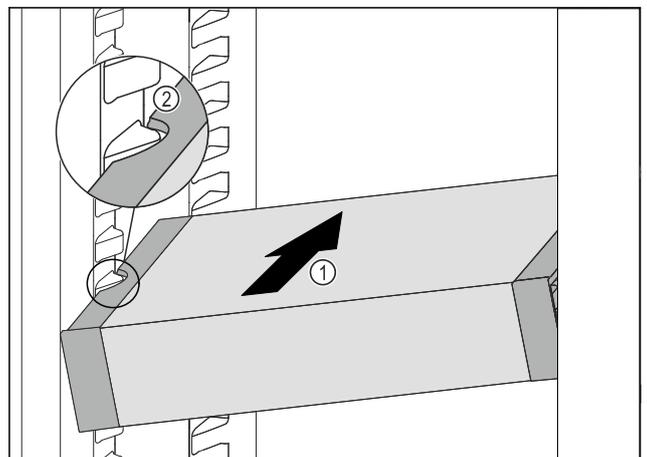

Fig. 90
- ▶ Insert the VarioSafe into the fridge section at an angle Fig. 90 (1) until the recesses in the side Fig. 90 (2) of the VarioSafe are at the level of the support rib in the fridge section.